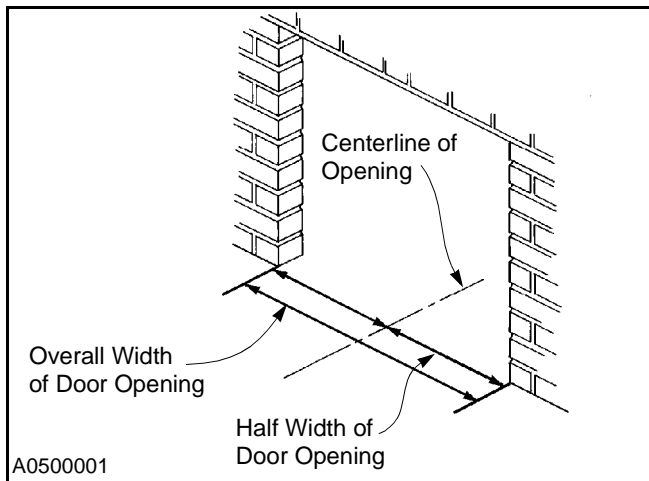

Figure 6
2. Divide the measurement in half to locate the centerline. Then mark the centerline along the floor. (See Figure 6.)